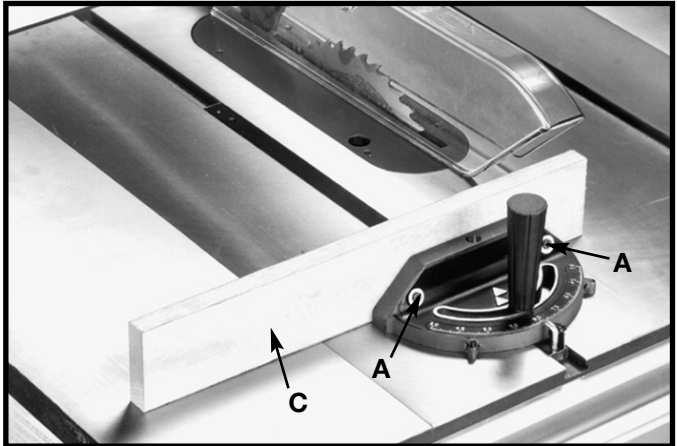

Fig. 43
For added safety and convenience the miter gage can be fitted with an auxiliary wood-facing (C), as shown in Fig. 43 that should be at least 1 inch higher than the maximum depth of cut, and should extend out 12 inches or more to one side or the other depending on which miter gage slot is being used. This auxiliary wood-facing (C) can be **fastened** to the front of the miter gage by using two wood screws (A) through the holes provided in the miter gage body and into the wood-facing.